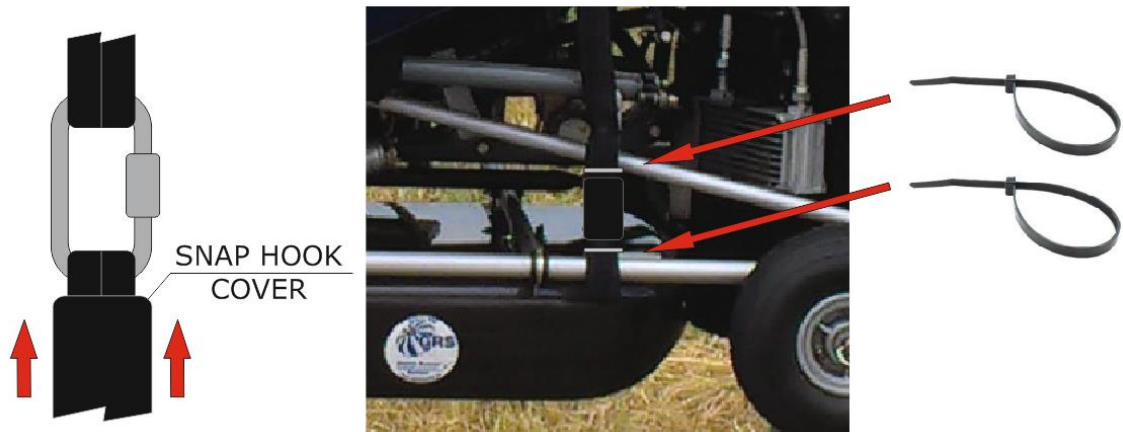

Figure 10
- 9) Connect the outside belt with the belt, which is going from the carbon fibre box by using a snap hook and cover it with a snap hook cover. Make sure that the **position of the snap hook is vertical**. Attach the covered snap hook with 2 plastic tapes (approx. 3mm width) to short vertical support according to figure 10.